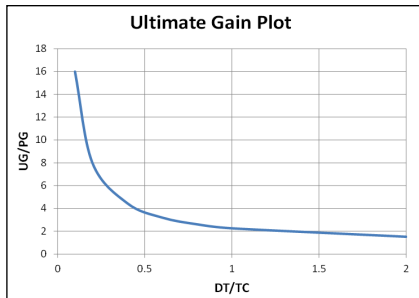

Figure 1: Ultimate Gain Plot
In this GATEKEEPER series, we introduced the Ultimate Gain Plot (Figure 1) and the variables dead time (DT), time constant (TC), and controller gain (Kp). These four aspects along with a basic understanding of the control loop to be tuned, are all that is required to develop preliminary tuning parameters. The examples in this GATEKEEPER demonstrate simple tuning rules. Rules for several types of loops are presented, but as a general rule:
The process time constant of a level control loop is roughly the time taken to drain the vessel with the level valve wide open. For most vessels, this will be 30 to 60 seconds or more. The dead time will usually be smaller than that; hence $DT/TC \ll 1$. From Figure 1, it can be observed that there is effectively no upper limit to the gain in this loop.
- Use $UG = 8$ (from Figure 1)